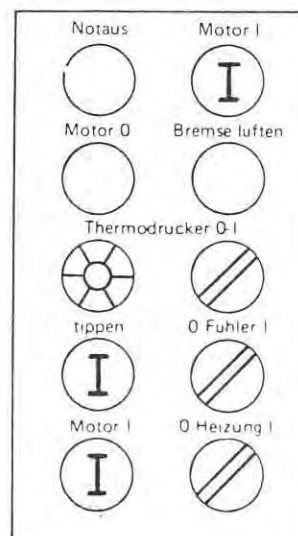

Fig. 122
19. Operate the machine by pressing the „Tip“ button (Figure 122) until fully filled pouches leave the machine.
20. Switch on the machine by simultaneously pressing the „Machine I“ buttons (Figure 122).